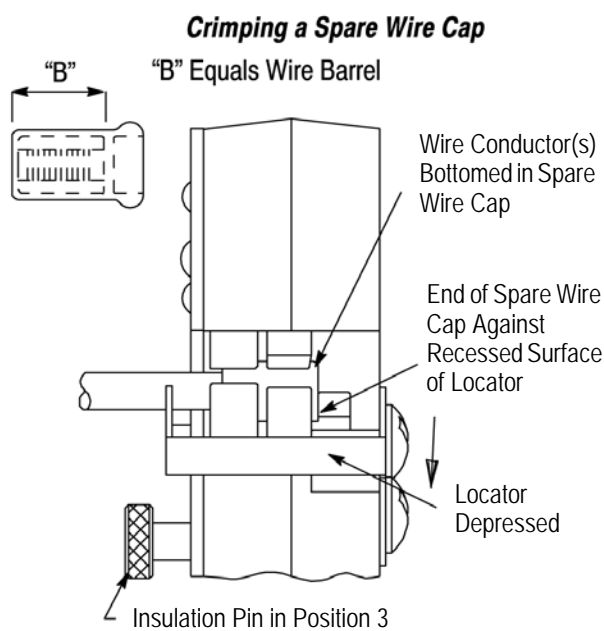

Figure 6
3. Depress the locator so that the end of the spare wire cap rests against the recessed surface of the locator. See Figure 6.